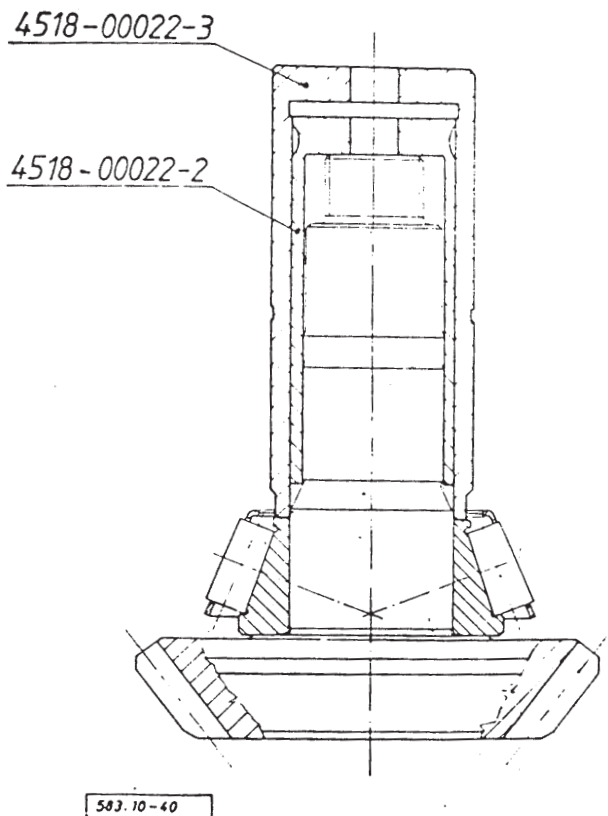

Fig. 8.: DRIVING ON THE INNER TAPER ROLLER BEARING CONE
inner taper roller bearing (12) onto the drive pinion (Fig. 8.).